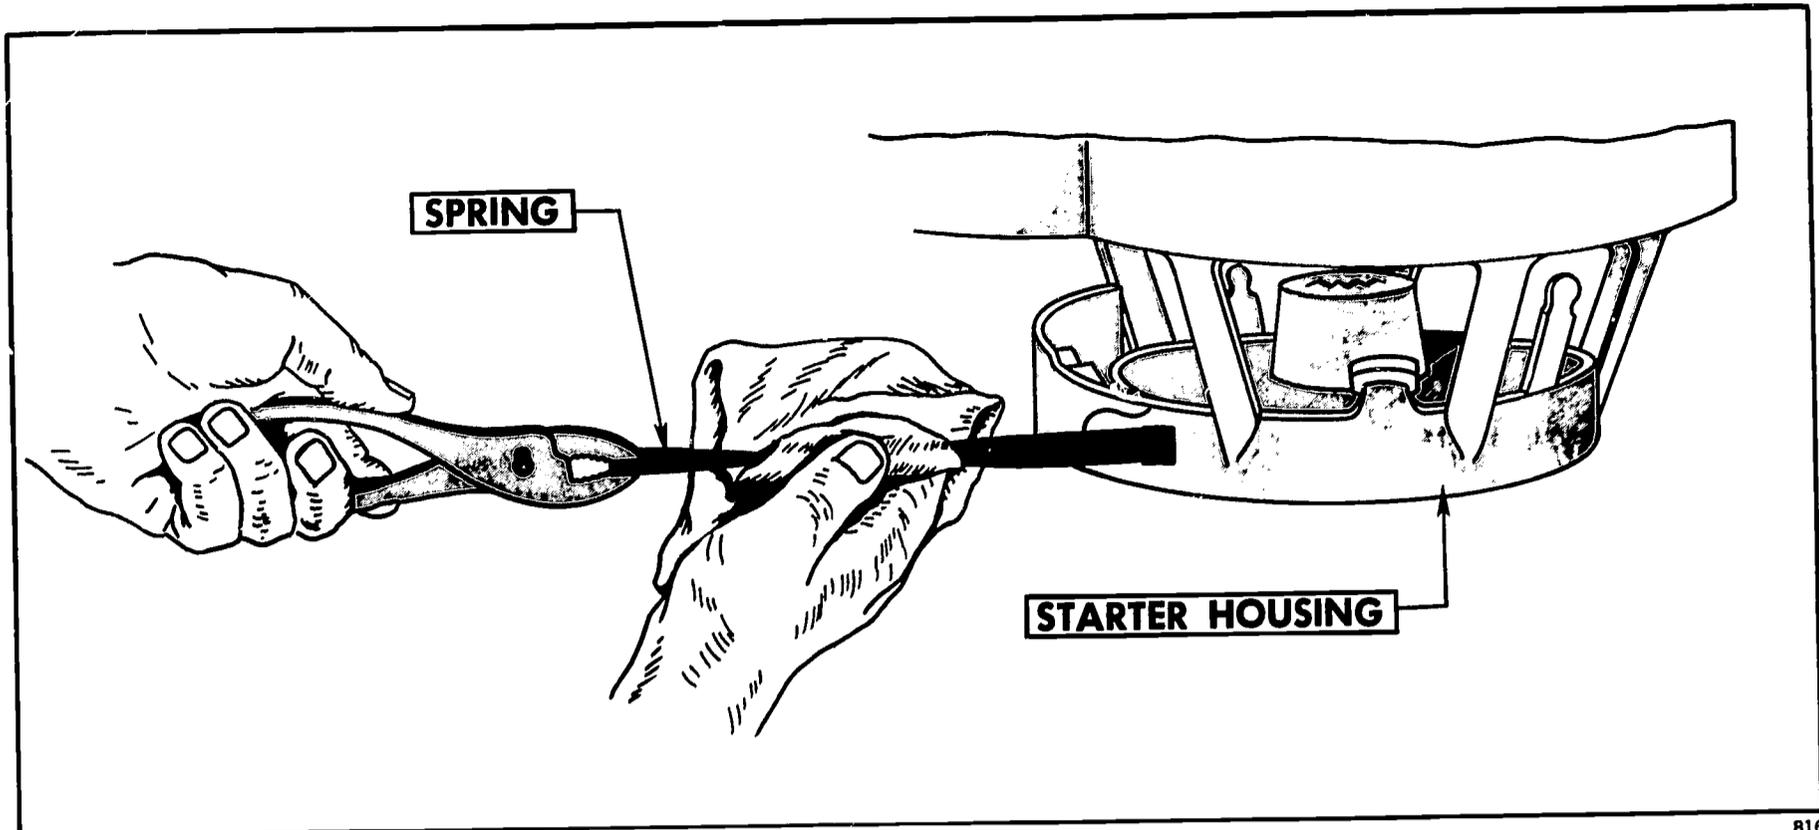

FIGURE 34. The recoil spring is unwound through the starter housing.
3. Pull spring out as far as possible (Figure 34).